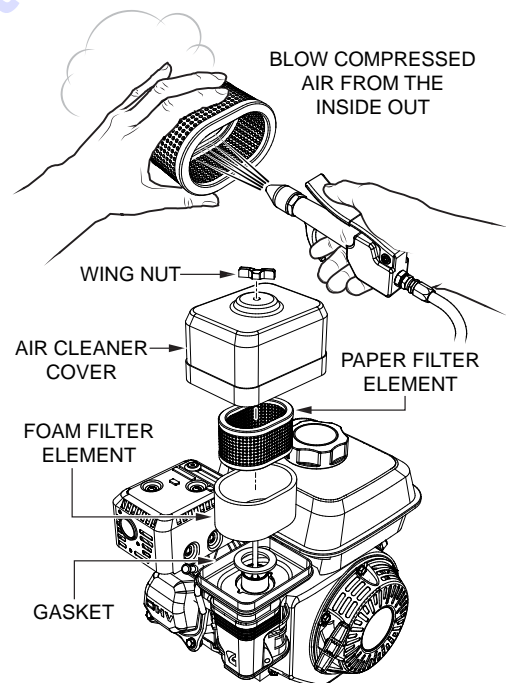

Figure 37. Engine Air Cleaner
1. Remove the air cleaner cover and foam filter element as shown in (Figure 37).
2. Tap the paper filter element (Figure 37) several times on a hard surface to remove dirt, or blow compressed air [not exceeding 30 psi (207 kPa, 2.1 kgf/cm2)] through the filter element from the air cleaner case side. **NEVER** brush off dirt. Brushing will force dirt into the fibers. Replace the paper filter element if it is excessively dirty.